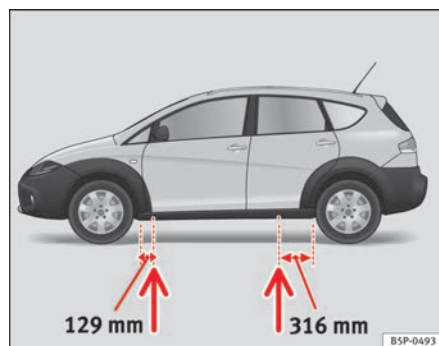

Fig. 172 The jacking points
- Locate the jacking point under the door sill closest to the wheel to be changed ⇒ fig. 172.
Recesses at the front and rear of the door sills mark the jacking points ⇒ fig. 172. There is only one jacking point for each wheel. Do not fit the jack anywhere else.